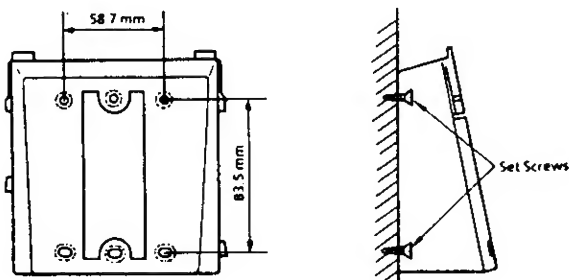

Figure 200-59 Setting The WMU-Z to the Wall
4. Fasten the optional wall mount unit (WMU-Z) to the wall, as shown in Figure 200-59.